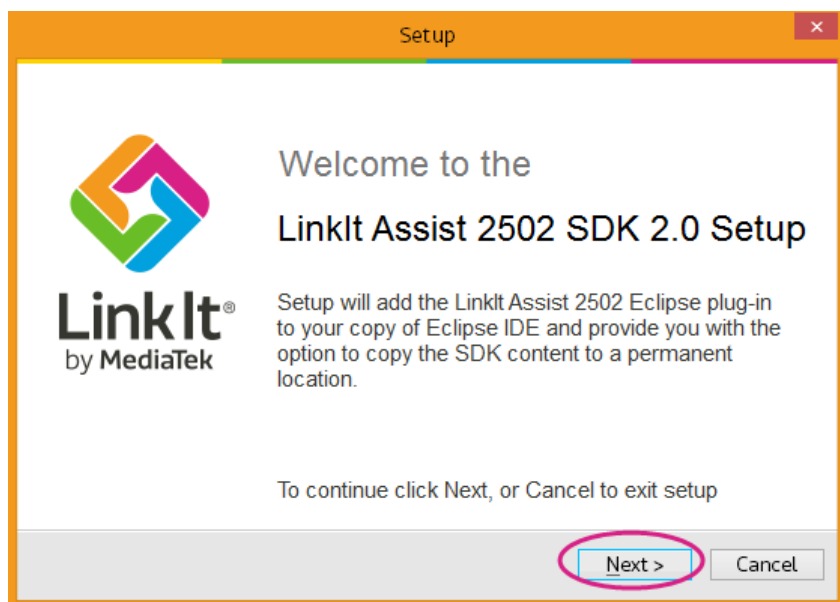

Figure 7 The welcome page of the SDK setup wizard.
- 5) In the Welcome page, Figure 7, click **Next**.